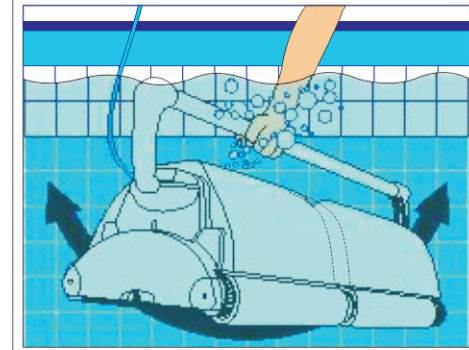

Fig.3
- (1) Locate a GFCI 110 V~ac. receptacle, and plug the Power Supply in.
- (2) Completely immerse the cleaner in water.
- (3) While the cleaner is in the water, gently tilt it side to side (fig3). This will allow any trapped air to escape through the pump outlets. Then, with a gentle push, allow the cleaner to sink to the bottom of the pool.
(1) Remove the Bumper wheel by removing the "C" clip and then the locking screw (FIG 3).
(2) Turn the cleaner upside down and remove the Bottom Lid Assembly. Locate and remove the four screws that hold the Side Plate to the main body. The Side plate is now free and ready to be removed.
(3) When the Side Plate is taken apart, you will notice 3 black bushings. It is a good idea to also replace these Bushings when the Drive Tracks are replaced.